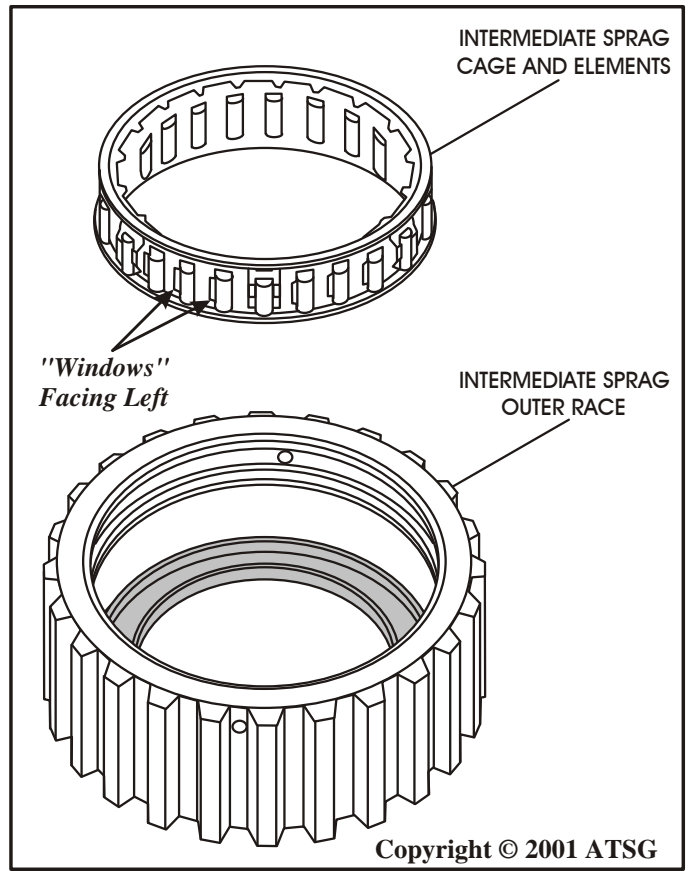

Figure 106
7. Install the intermediate sprag cage and element assembly into the outer race, with "Windows" facing to the left, as shown in Figure 106.
CAUTION: *The "Windows" must face in the direction shown in Figure 106, for sprag rotation to be correct.*